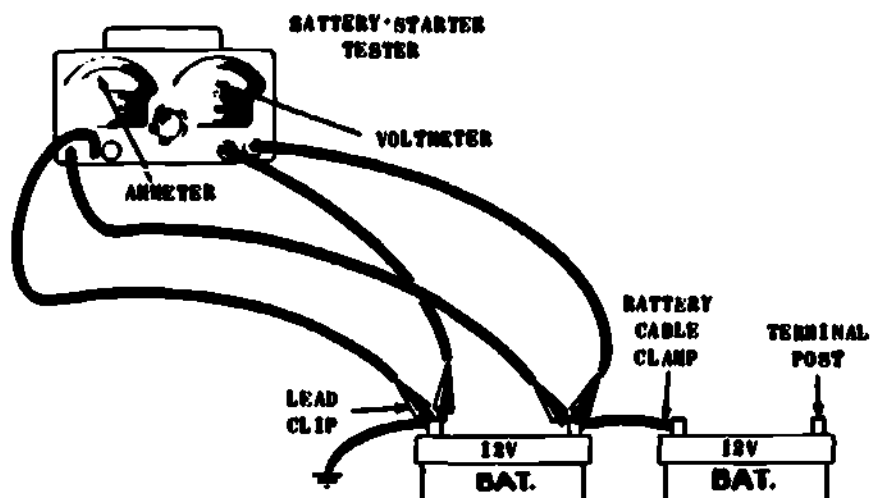

Fig 1-10. Battery capacity test connections.
- (a) **Battery capacity test (fig 1-10).** The capacity test is made if visual inspection and preliminary tests fail to locate the electrical trouble or if electrical troubles are reoccurring. Before making the capacity test, the electrolyte must be at the proper level and have a specific gravity of at least 1.225 at 60°F or above.
- Step 1. Turn the control knob of the tester to the OFF position and connect the ammeter leads as illustrated (fig 1-10).